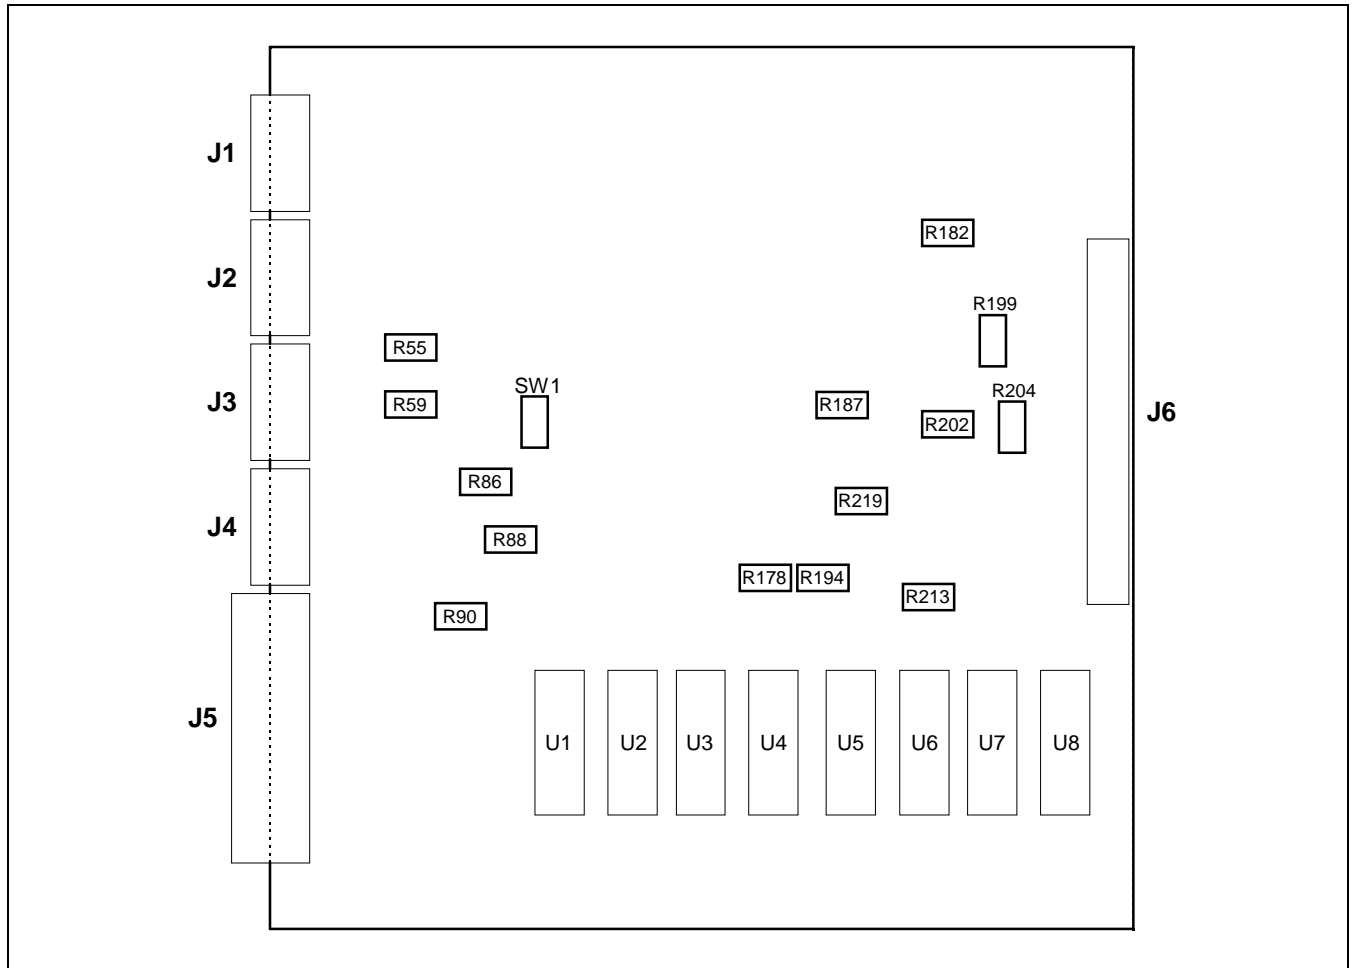

Figure 9 – Audio Matrix Board Potentiometer And SW1 Locations
1. With the Audio Matrix Board connected to the Backplane via an Audio Matrix Board extender board, and the Maestro system in operation, the potentiometers indicated in Table 3 may be adjusted to achieve desired operating levels for the corresponding signals. Figure 9 indicates the positions of the potentiometers.